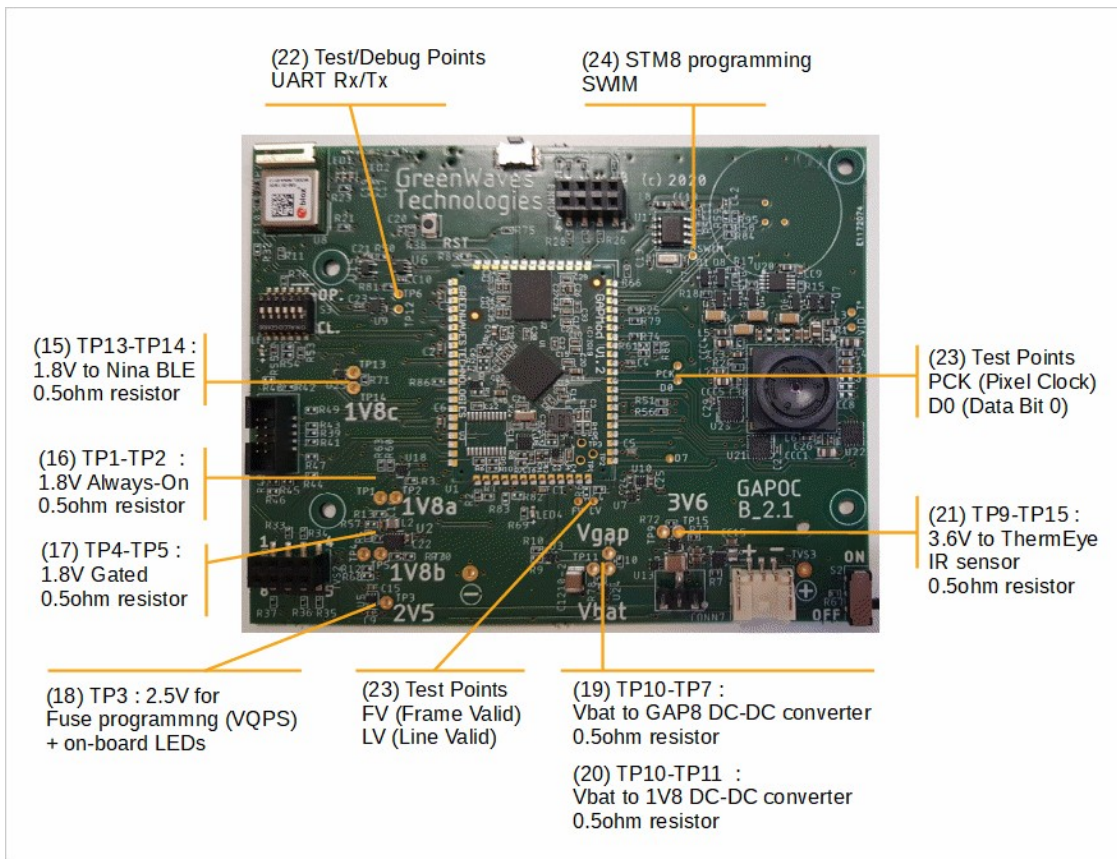

Fig. 2.c – Anatomy of GAPPoc B 2.x : Test Points
> Item (8) in Fig. 2.b.
> Item (10) in Fig. 2.b.